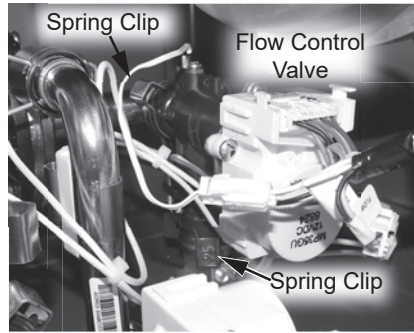

Figure 180 - Flow control valve location
**19** Locate the flow control valve at the bottom right side of the water heater. See Figure 180.
**20** Remove the two (2) spring clips (size 25) securing the flow control valve to the piping system. Place spring clips aside in a safe place for reinstallation. Remove the flow control valve from pipe connections and set aside in the water heater cabinet. See Figure 180.